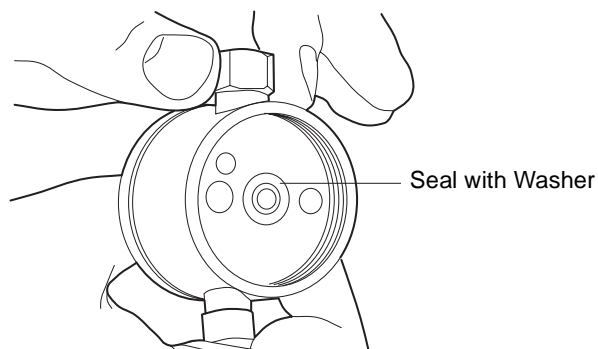

Figure 4-2 Plunger Seal and Washer
1. Use the seal insertion tool to pry the seal and washer out of the pump head (see Figure 4-2).